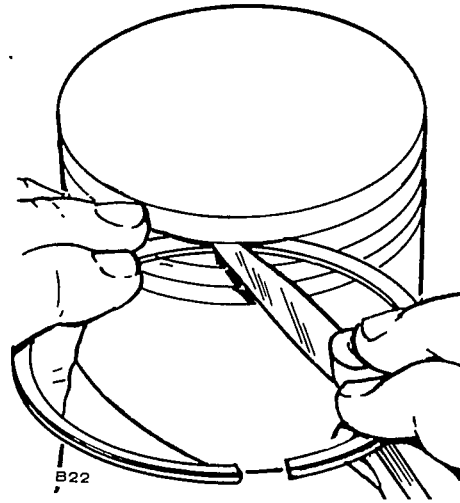

FIGURE 61. CHECKING RING SIDE CLEARANCE
1. Inspect the pistons for fractures at the ring lands, skirts, and pin bosses. Check for wear at the ring lands, using a new ring and feeler gauge as shown in Figure 61. Replace the piston when the side clearance of the top compression ring reaches 0.006 inch.